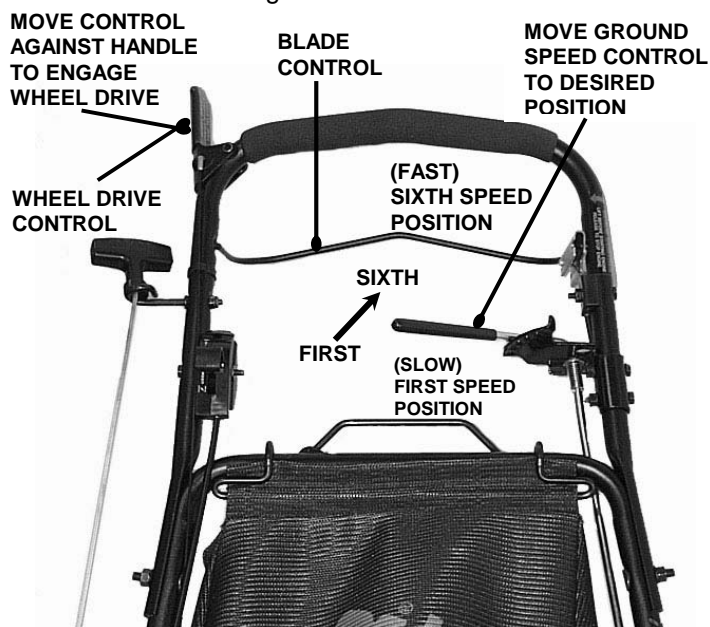

FIGURE 2.4
1. Move ground speed control to the desired speed position. See Figure 2.4.
2. Move wheel drive control against handle to engage wheel drive and propel mower forward. Forward speed can be adjusted while the mower is moving by changing position of the ground speed control. See Figure 2.4.